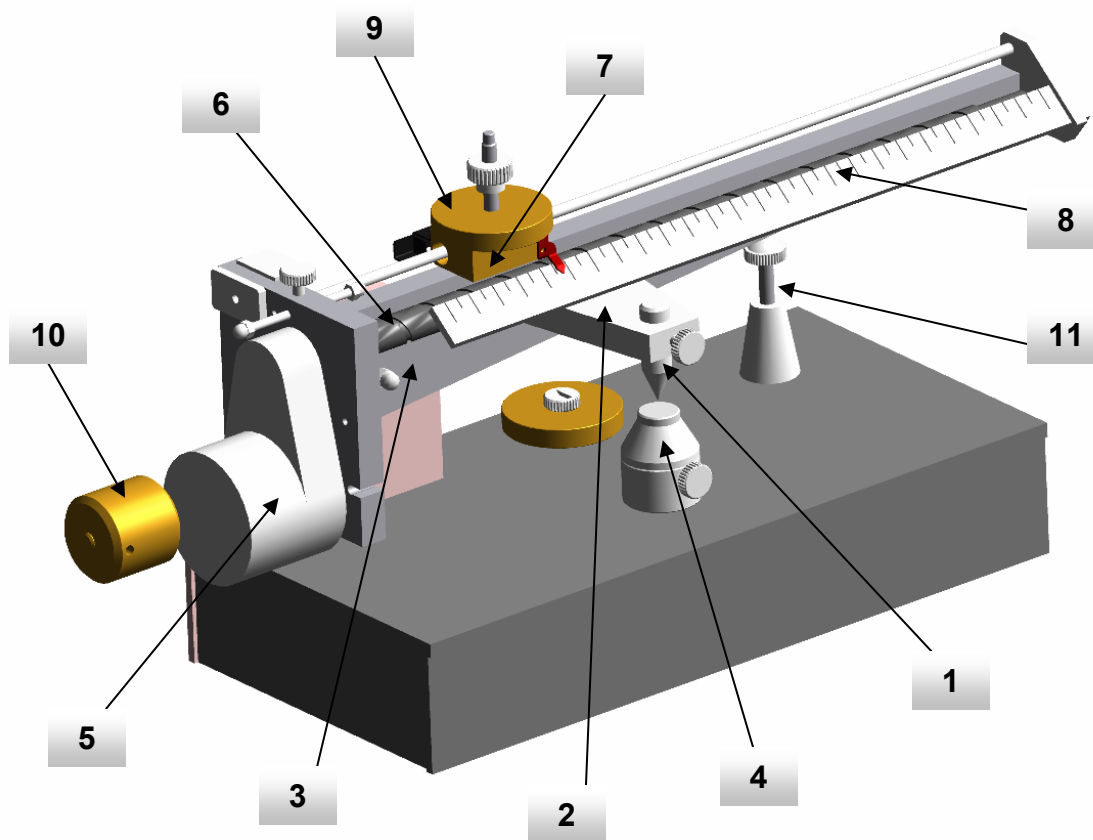

Figure 1, "Front View"
Figure 1, "Front View" .....	2
The pusher (1), see figure 1 & 2, is mounted on a bracket (2) fixed to an arm (3), which pivots on a fulcrum.